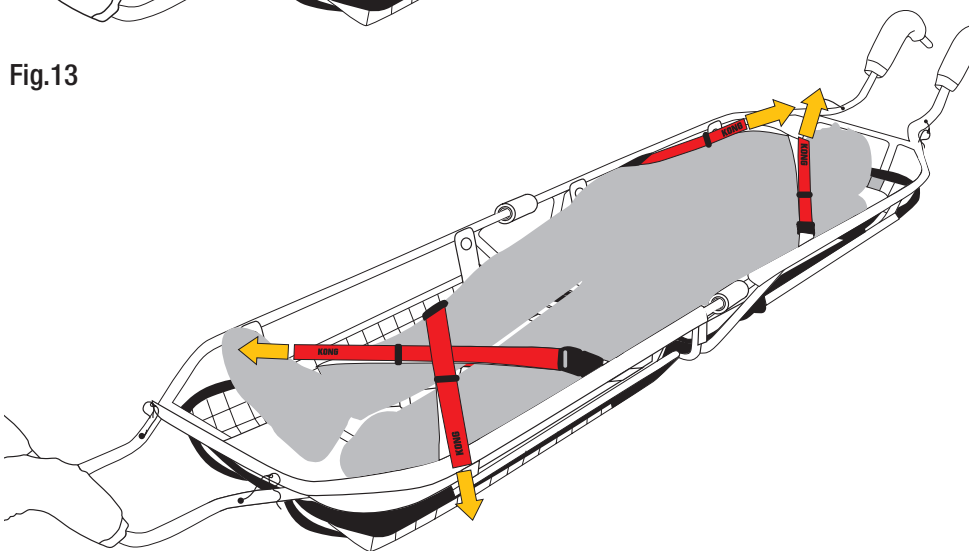

Fig.14
- Lay the patient in the stretcher, hook on the buckles and tension the straps until they secure the patient (Fig. 14).